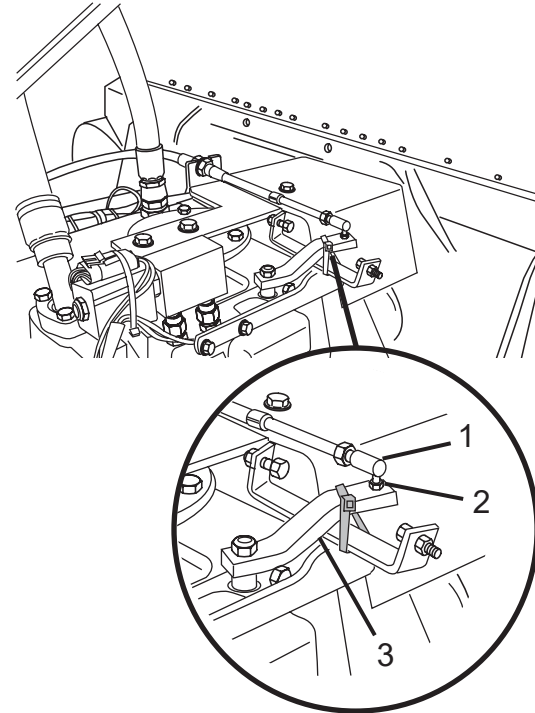

Figure 84
1. Pull back and hold the head (Figure 84, Item 1) of the control cable, and lift the end of the cable off the pivot (Figure 84, Item 2) to disconnect the control cable from the pump control lever (Figure 84, Item 3).
2. Move the pump control lever (Figure 84, Item 3) as required to start the drum rotation in the charge or discharge direction.